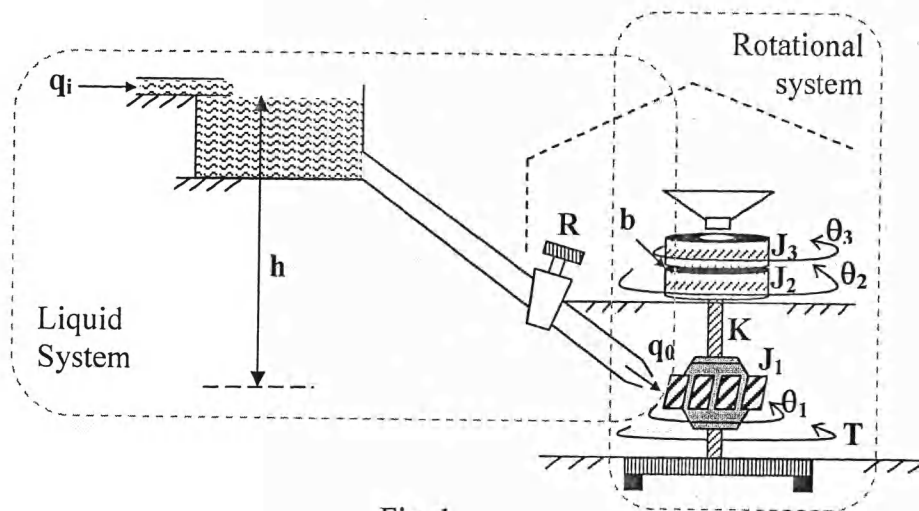

Fig. 1
- Water mill (*pani ghatta*) as shown in Fig. 1 are still being used in remote hilly regions of Nepal. The water from the penstock strikes the turbine and the turbine rotates to provide a torque to rotate one of the stone of the grinder which is attached to the common shaft. The grains are put from the top into the gap between the two stones. The grains get grinded with the movement of one of the two stones of the grinder.
The discharge of water inlet to the forbay tank is q_i , the area of the forebay tank is A , R is the resistance offered by the gate valve to the water flow and q_0 is the output discharge from the pipe to the turbine. The power delivered by water to the turbine is given by $P = 5 \times h \times q_0$. Also the power at the turbine shaft is related with torque as, $P = T \frac{d\theta_1}{dt}$. The rotational systems with its moment of inertias, shaft-spring torque, damping torque between two stones are as shown in Fig.1.
- Determine the transfer function relating the input q_i and output θ_2 of Fig.1. [5]
- Determine the state space model of the rotational system of Fig. 1. Consider θ_1 , θ_2 and θ_3 as output variables and torque T as the input variable. [3]
- For the liquid system of Fig. 1 if $q_i = 10 \text{ m}^3/\text{s}$, steady state value of $q_0 = 5 \text{ m}^3/\text{s}$, maximum value of $q_0 = 8 \text{ m}^3/\text{s}$ at time $t = 10$ seconds determine the value of A and R of the system. Also draw the time response curve of q_0 . [3]